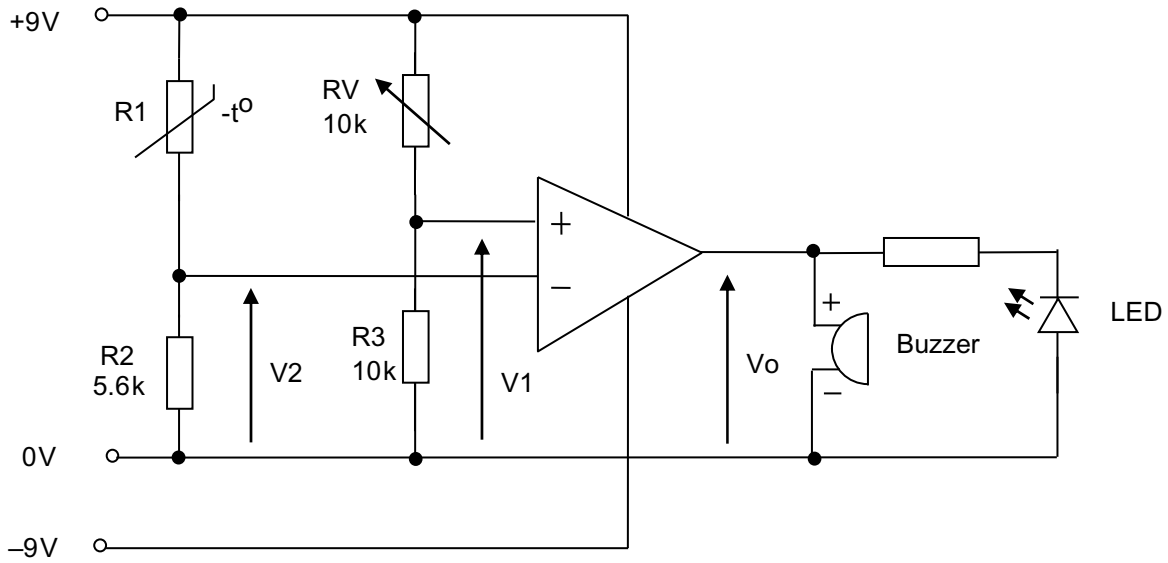

Fig. 10(b)
- (i) State whether the output from the comparator shown in **Fig. 10(b)** is considered as on/off or continuous and briefly justify your answer. [2]
- (ii) Explain the practical purpose of the variable resistor RV in the circuit shown in **Fig. 10(b)**. [2]